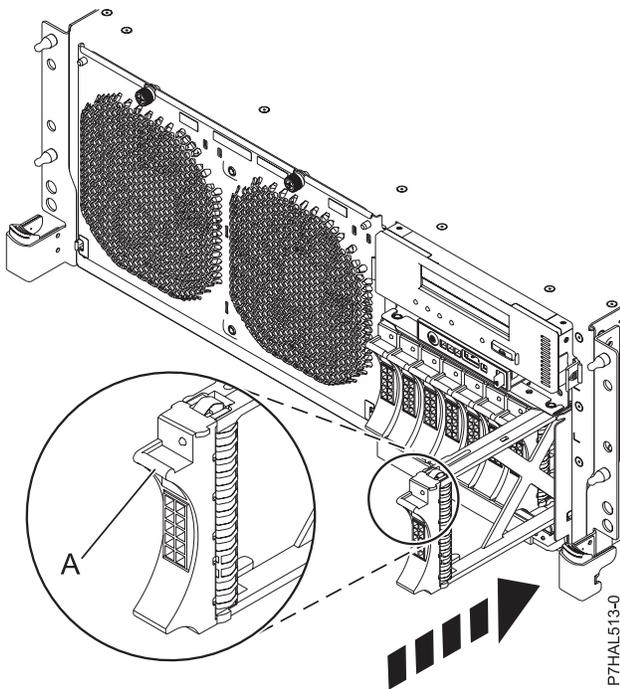

Figure 41. Installing a disk drive filler in the system
2. Slide the disk drive filler all the way into the system or expansion unit, and push the disk drive filler handle (A) until it locks, as shown in Figure 41.